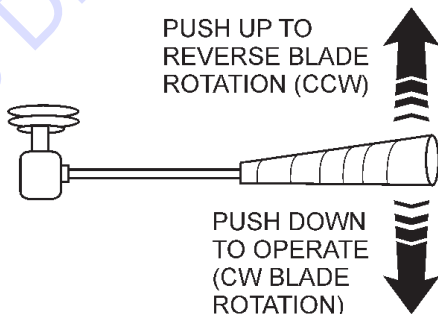
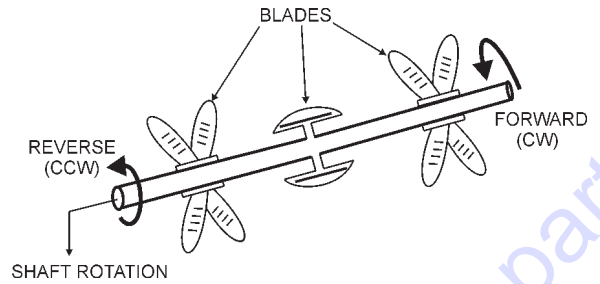

Figure 31. Hopper Remixer Control Lever
Figure 32. Hopper Remixer Blades (Rotation)
- Push the Hopper Remixer Control Lever **DOWNWARD** (Figure 31). The Hopper Remixer Control lever is located to the left of the Hydraulic Temperature gauge. Observe that the blades (Figure 32) inside the hopper are turning in a clockwise direction (FORWARD). To turn the blades in a counterclockwise direction (REVERSE), push the Hopper Remixer Control lever **UPWARD** (Figure 31).